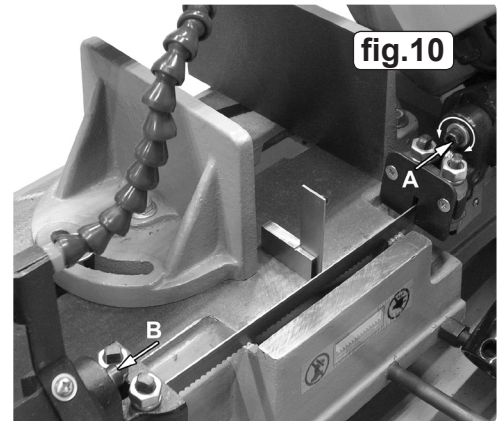

fig.10
4.11.2 Place an engineer's set square onto the bed touching the blade as shown in fig10. The blade should make contact with the square across its entire width.